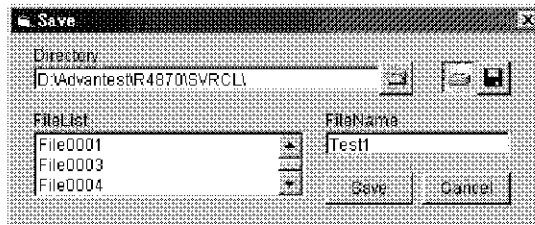

Figure 2-18 Data Save
6. Existing file names are listed in the File List box. Input the file name into the File List text box (see Figure 2-18).